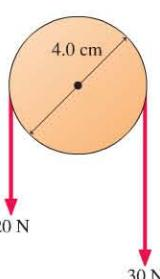

FIGURE P7.7
7. I What is the net torque about the axle on the pulley in Figure P7.7?